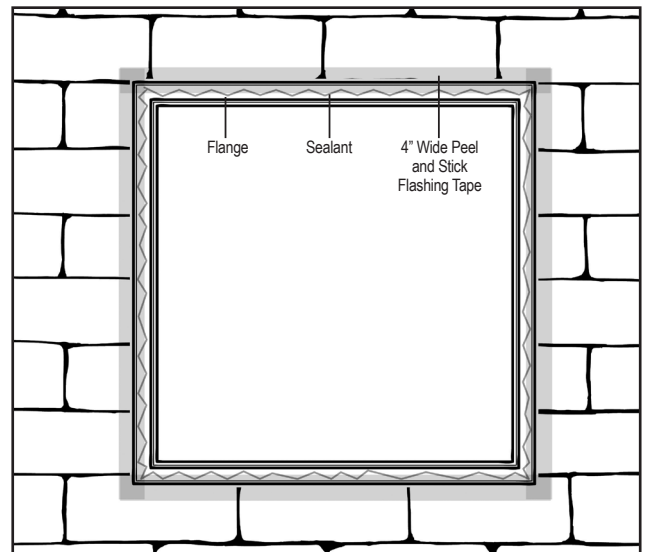

Figure 3
**Step 9** - Once the skylight is set in the bead of sealant, firmly press/ apply (insuring complete adhesion). Apply the 4" wide Peel and Stick Flashing Tape with 2" on the top of the flange and 2" on the roof deck, covering the seam between the edge of the flange and the roof deck all the way around the skylight - starting with the bottom then the sides and finishing at the top. This will create a secondary watertight seal. (Figure 3).